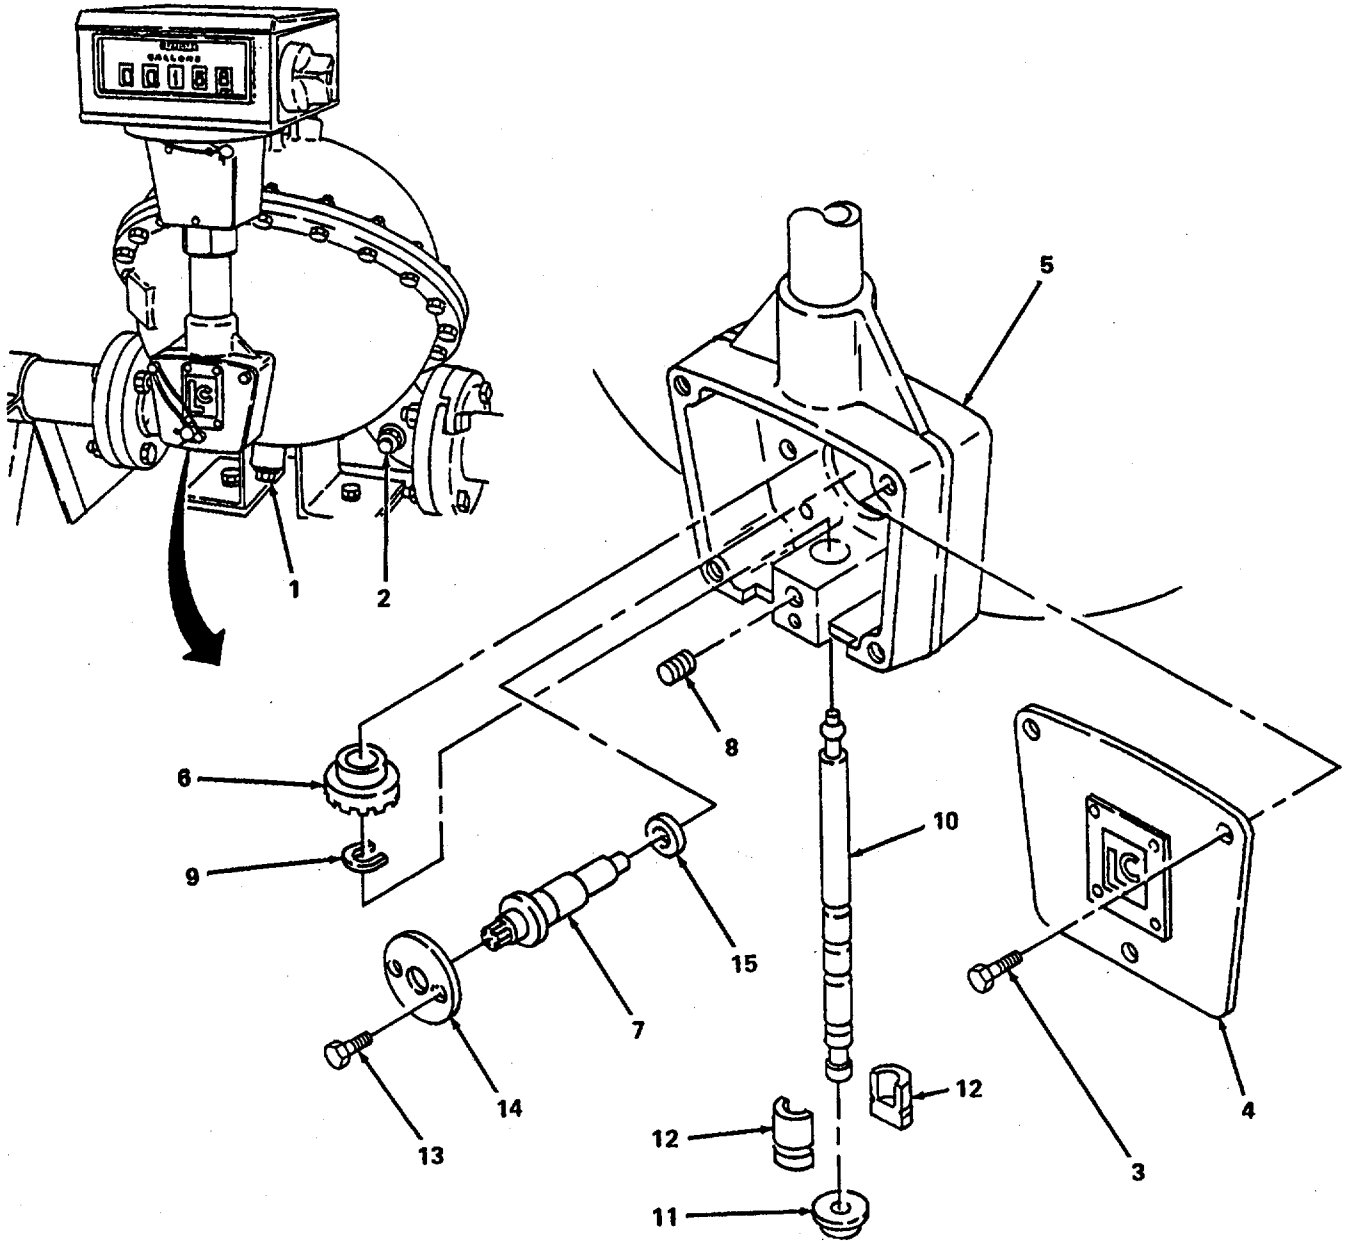

Figure 6-41. Flow Meter Packing Gland Assembly Removal.
- (b) Remove weldment pipe plug (1, figure 6-41) and inlet elbow pipe plug (2), allow flow meter to drain, then reinstall pipe plugs.
- (2) Remove packing gland assembly.
- (a) Break seal and remove three screws (3) and cover plate (4) from packing gland housing (5).
(2) Disassemble metering chamber components.